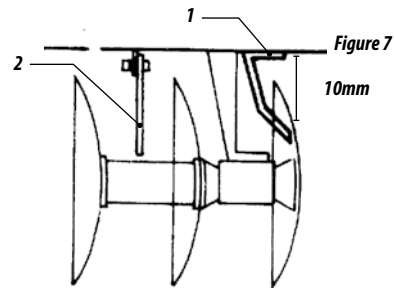

Figure 7
13 - Fix the disc scrapers (1) into the front and rear frames allowing a looseness of 10mm between each disc and scraper, according to figure 7.
14 - Put also the central disc scrapers (2) onto the front and rear frames according to figure 7.